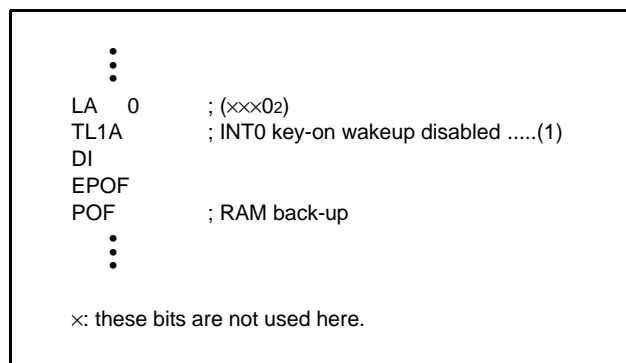

Fig 25. External 0 interrupt program example-2
- When the INT0 pin input is disabled (register I13 = "0"), set the key-on wakeup of INT0 pin to be invalid (register L10 = "0") before system enters to the RAM back-up mode. (refer to (1) in Figure 25).